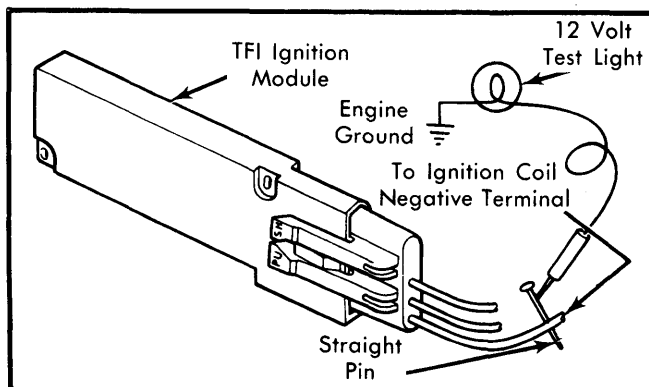

Fig. 4 Testing Ignition Coil Primary Circuit Switching
- 1) Insert a small straight pin in wire to ignition coil negative terminal about 1" from ignition module connector. Attach test light between straight pin and engine ground. Crank engine. Remove test light and remove straight pin from wire. See Fig. 4.